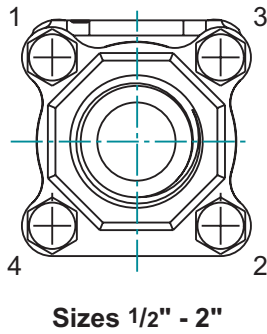

FIGURE 3
- 7.4 Remove 3 body bolts on each side of the main valves, so the main valve body can swing away from its installed position and be brought out of the pipe line (see **figure 3**).